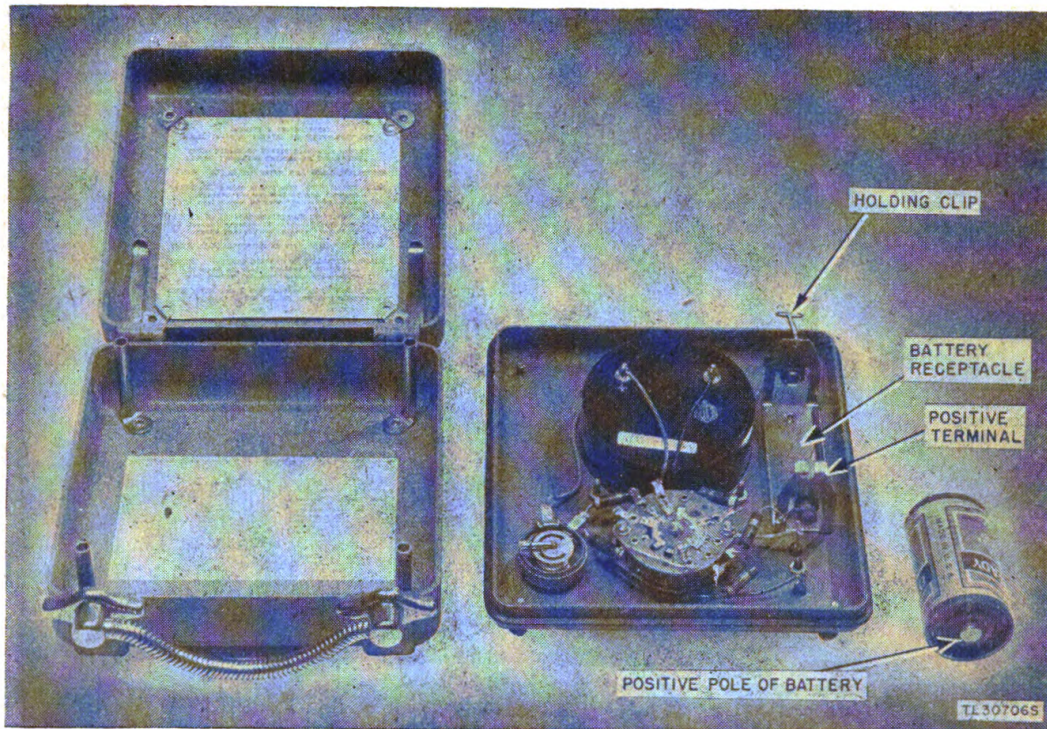

Figure 4. Details of battery installation.
a. Loosen the four mounting screws in the corner of the instrument panel and lift the panel from the case. All circuit parts are mounted on the rear of the panel. The battery-mounting receptacle is located to one side of the meter (fig. 4).
panel. The positive polarity will usually be marked on the battery receptacle, but, in any event, install the battery as indicated in figure 4.